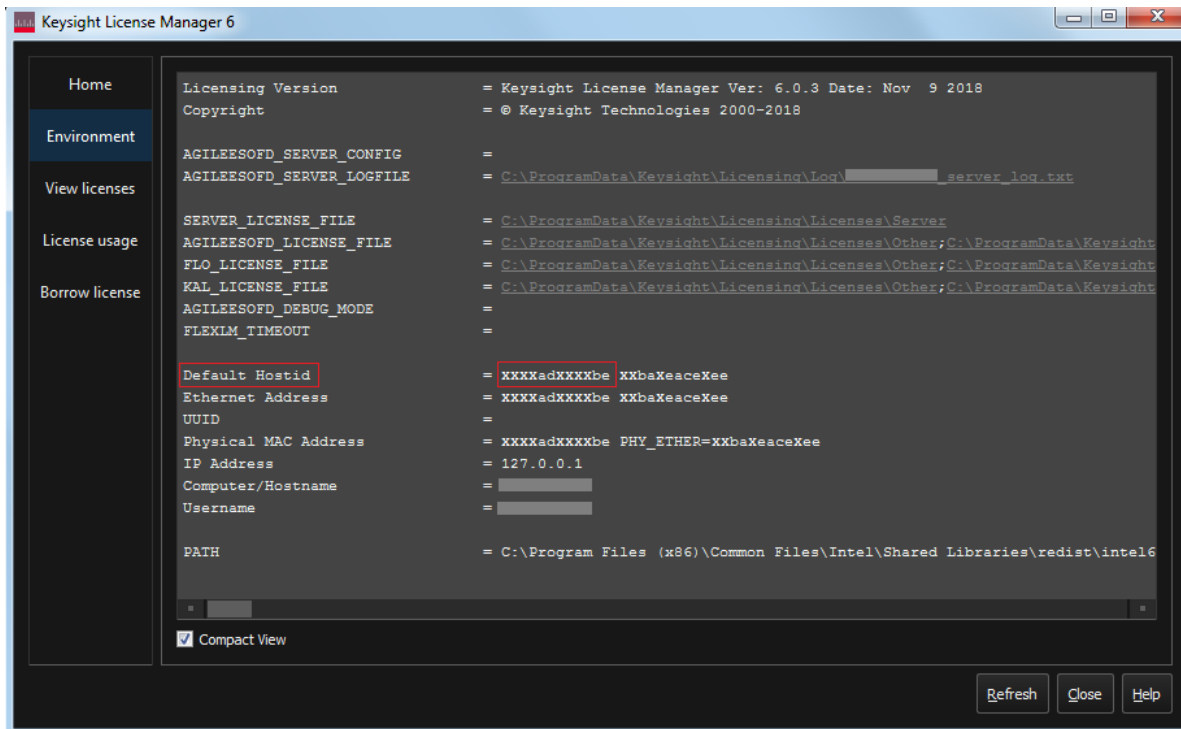

Figure 8 Viewing the Host ID information in KLM 6
- 2 Copy the Host ID, which is the first set of alphanumeric value (as highlighted in Figure 8) that appears in the Environment tab of the application. Note that x indicates numeric values.